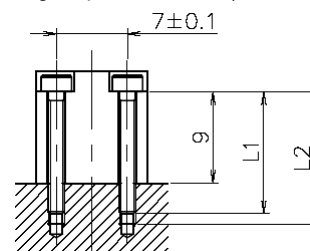

Fig.2
- (1) To install, use M1.6 screw (recommended tensile strength ranking [12.9], longer than 12 mm). Drill holes in the measuring object. The holes' effective screw depth should be longer than the mounting screws, $L1 \leq L2$. The distance between the holes should be 7 ± 0.1 mm. (Fig.2)
- (2) Clean the mounting area.
- (3) Also clean the mounting surface of the transducer.
- (4) Apply the silicone grease lightly between the transducer and measuring object. The tightening torque is 0.1 to 0.12 N · m (Recommend tightening torque: 0.12 N · m).